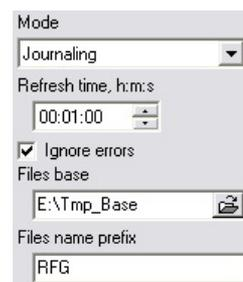

Fig. 4.19 Parameters of the journalizing mode
- *The journalizing mode* – allows (Fig 4.19) periodically to make measurements and to keep the received files on the disk device. Names of kept files are formed of a prefix, a serial number and extension .xtdr (for example RFG_0.xtdr, RFG_1.xtdr, RFG_2.xtdr etc.). The catalog in which save all reflectograms is set in the field “Files base” (strictly speaking it is one of sub-directories of the specified base of files). The field for input of an interval of updating is similar to that in a viewing mode, but allows to set the big intervals of time.